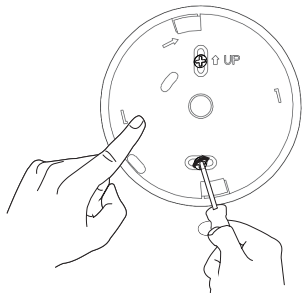

Figure 9
- 6)Screw the mounting bracket into the wall(refer to Figure 9).